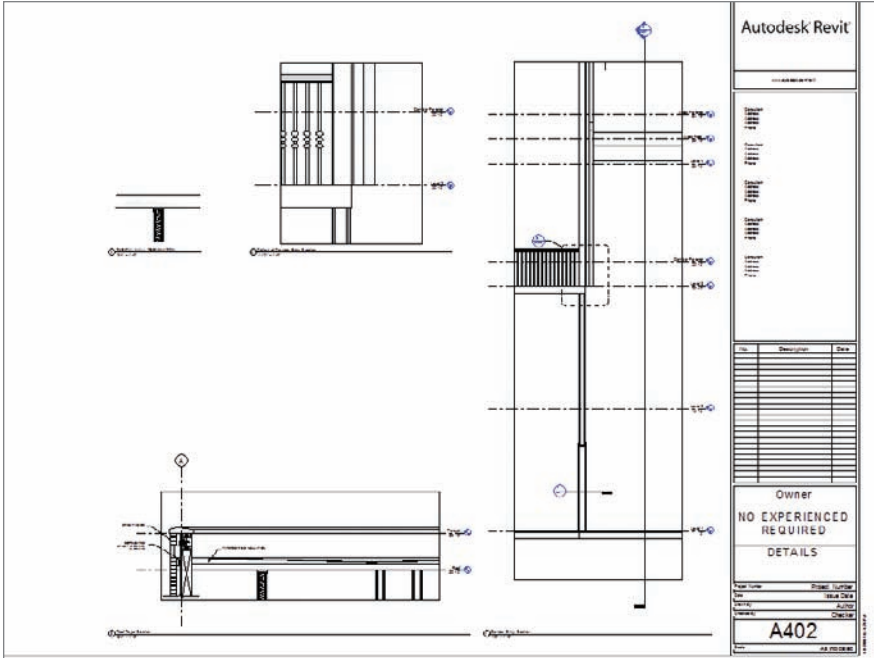

FIGURE 14.14 Building the A401 DETAILS sheet
5. In the Project Browser, drag the Sections (Building Section) called Callout of Corridor Entry Section onto the sheet to the top left of the previous section (see Figure 14.14).
7. Drag the view called TYPICAL WALL TERMINATION to the sheet directly to the left of Callout of Corridor Entry Section (see Figure 14.14).